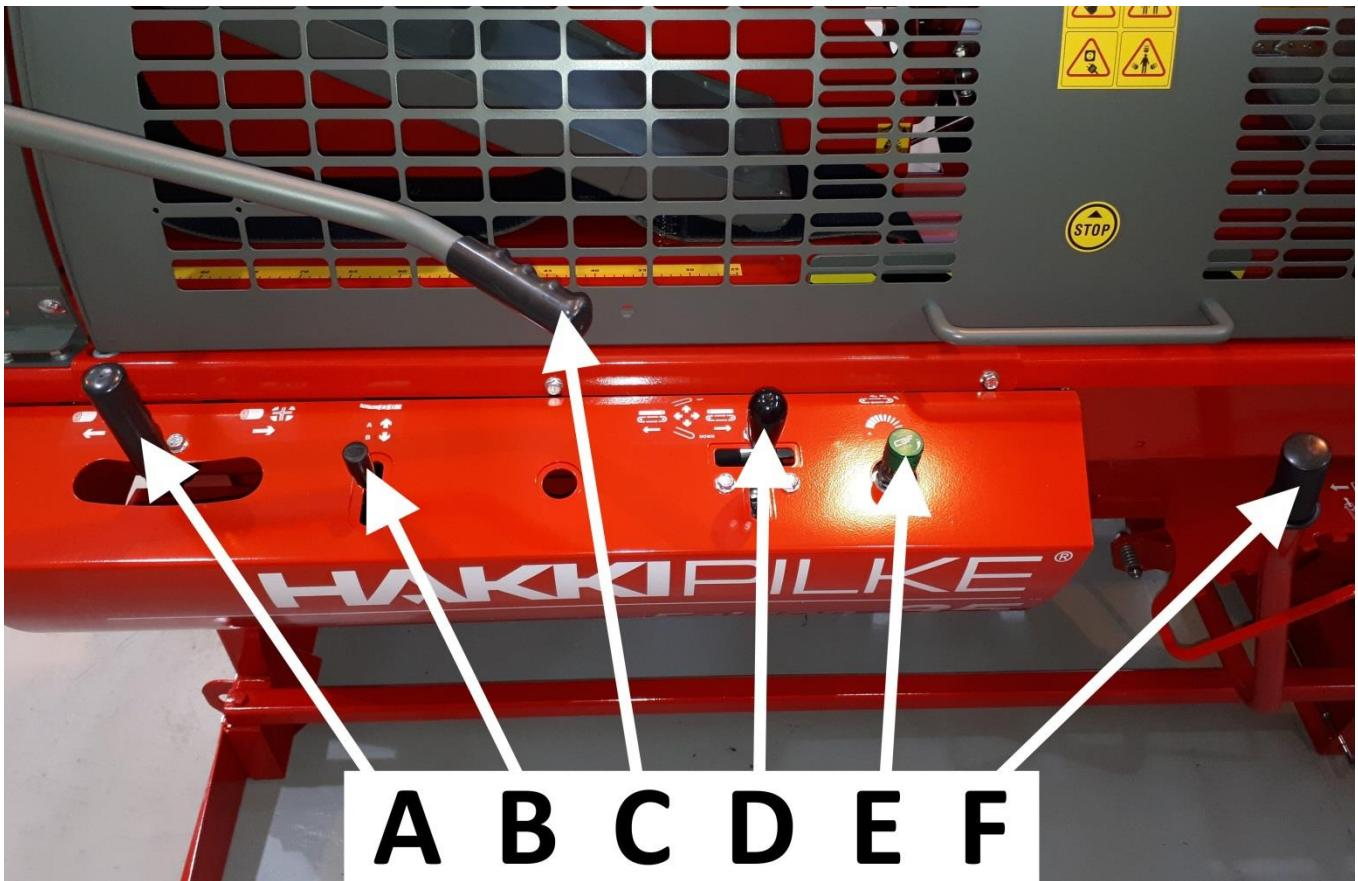

Figure 11
Connect the additional hydraulics (HakkiLift log lifter or HakkiFeed log table separator) by inserting the hydraulic hoses of the accessory into quick couplings **A** (red) and **B** (black) (Figure 9). Use the quick couplings with control lever **B** (Figure 11).
Hydraulic in-feed rollers and HakkiFeed log tables can be connected in series with the machine's in-feed conveyor. In this case, the in-feed rollers function automatically in synchronisation with the in-feed conveyor when logs are being fed in with lever **D** (Figure 11).
##### Names and functions of the controls (Figure 11):
6. Activate the machine's splitting motion by lowering the saw bar fully into the lower position and lifting it back up using lever D (Figure 11). The splitting motion must be normal. The splitting motion can also be activated by pulling lever A to the right (Figure 11).
- a. Use lever D (Figure 11) to perform a few sawing motions without any actual logs.
8. Ensure that the saw chain starts running when you lower the saw bar by about 2 cm using lever D (Figure 11).
10. Ensure that the splitting blade returns to the initial position (in the middle of the splitting motion) also by pushing lever A (Figure 11) to the left.
11. Test run the feed and return motion of the in-feed conveyor using lever D (Figure 11) by pushing the lever to the upper right (belt runs to the right) and upper left (belt runs to the left).
12. Start the out-feed conveyor by using control E (Figure 11) to adjust the speed to an appropriate level for the conveyor.
The in-feed conveyor feeds the wood to be processed into the machine. Feed wood into the machine using control lever D in Figure 11 of Section 3.1.
3. Once the log stops for cutting in the mechanical measuring device, lock the log in place with the wood press by pressing handle C of the press (Figure 11) downward.
4. Cut the log by pulling lever D back, which activates the saw chain and lowers the saw bar (Figure 11).
5. Return the saw bar to the raised position by pushing lever D (Figure 11) forward, **which automatically activates the splitting function**.
When sawing wood, the second to last piece should be sawn in such a way that the remaining piece is of a sufficient length. This ensures that the log will stay firmly under the log press and that the sawing will be steady and safe. Drive the last piece of wood directly into the splitting section, and start the splitting process with control lever A or lever E (Figure 11).
The splitting beam performs the splitting motion automatically whenever the saw bar is lowered all the way down using lever E (Figure 11) and raised back up again. In other words, the splitting motion starts automatically when the log is dropped into the splitting groove after cutting and the saw bar is lifted back up.
In addition to this, control lever A (Figure 11) can be used to activate the splitting by pushing the lever briskly to the right and returning it to the initial position. This function is useful, for example, when the last log to be split
The machine's splitting motion can be interrupted by pushing control lever A to the left (Figure 11). **The splitting can also be halted by raising the machine's guard when the saw bar is in the upper position.**
4. Activate the splitting using lever A (Figure 11).
The belt of the Hakki Pilke Falcon firewood processor's out-feed conveyor is driven by a hydraulic motor. To change the speed of the belt, use adjuster F (Figure 11). The optimal speed for the cleaning out-feed conveyor belt can be determined by trying different settings. The split logs should only just pass over the plate. The separation plate can be adjusted with adjustment screws B in Figure 25.